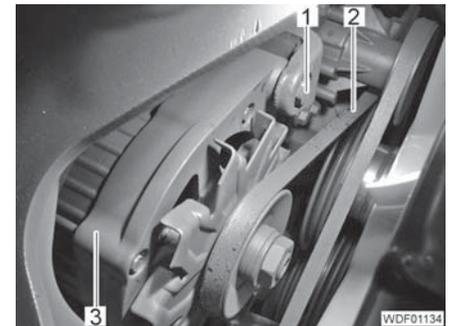

Fig. 417 Generator attachment
- Undo the screw (Fig. 417,1).
- Screw the generator (Fig. 417,3) sufficiently far towards the engine that the V-belt (Fig. 417,2) is free.
- Unscrew the screw (Fig. 417,1).
- Insert the generator (Fig. 417,3).
- Screw in the screw (Fig. 417,1).
- Place the V-belt (Fig. 417,2) over the drive pulley.
- Tighten the screw (Fig. 417,1).